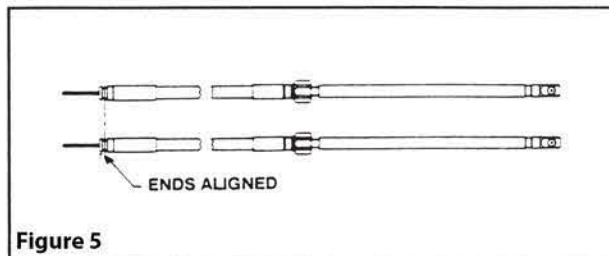

Figure 5
4. Push both output rams of the cables to the fully retracted position. Make sure that they stay fully retracted during installation into the helm. Remove the protective sleeves from the steering cables, making sure that dirt does not get onto the lubricated cable ends. Hold both cables together at the helm end with the faces of the conduit fittings flush, as shown in figure 5.